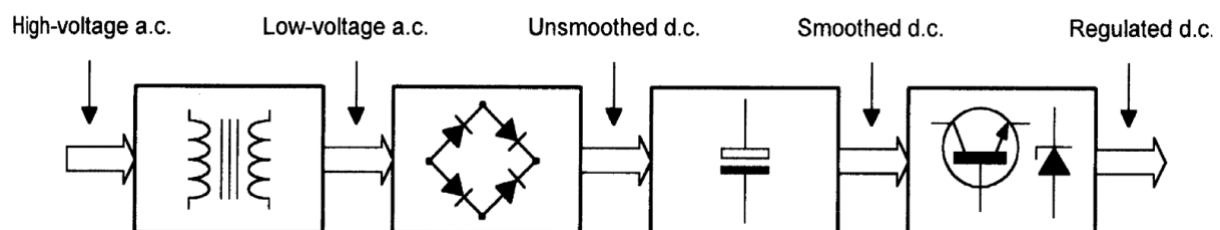

Figure 1.2 Block diagram of a d.c. power supply showing principal components
- Fig. 1.2 shows the realization of the block diagram of a d.c. power supply using the electronic components in Fig. 1.1.